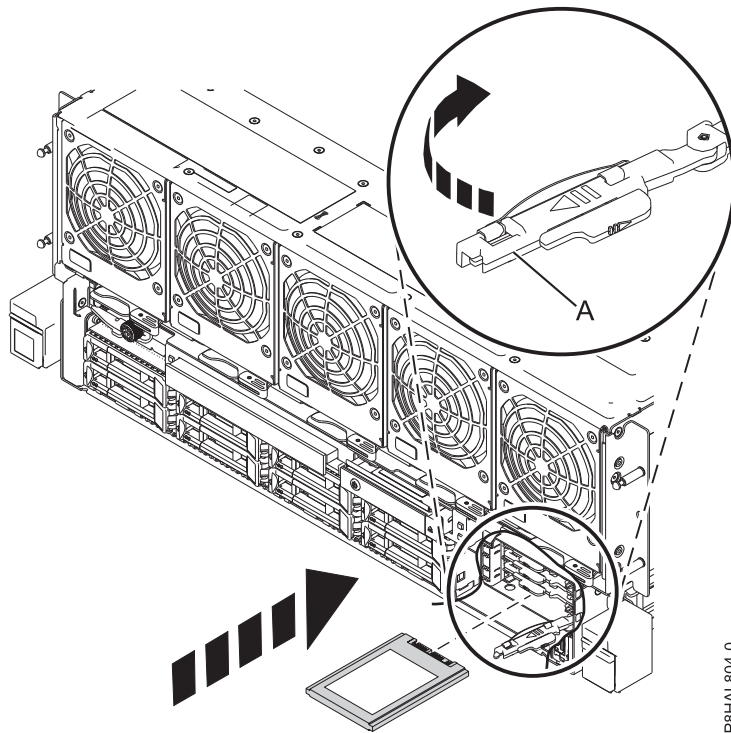

Figure 9. Installing an SSD in an 8408-44E or 8408-E8E system
14. With the SSD drive bay handle (A) in the unlocked position, pull the lever outward to gain access to the guide rails in the SSD slot. Support the bottom of the SSD as you align it with the guide rails in the SSD slot. See Figure 9 on page 17.
18. Lock the drive by rotating the bay handle (A) in the direction that is shown in Figure 9.